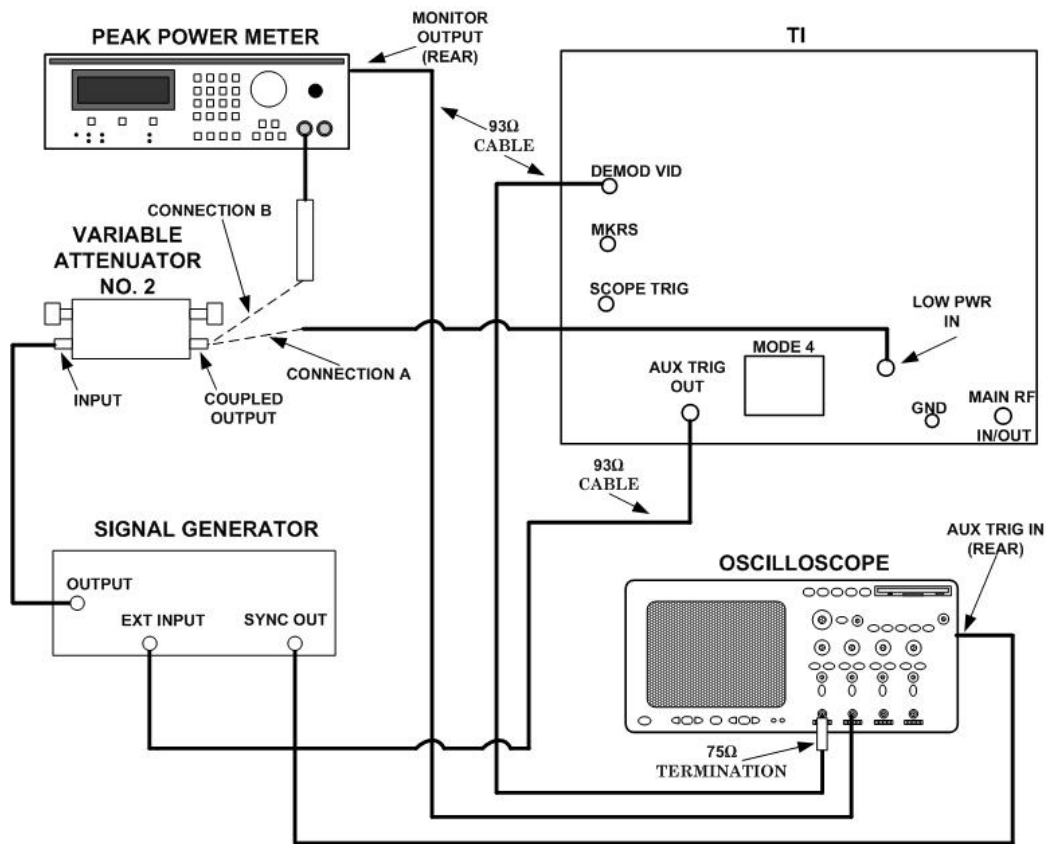
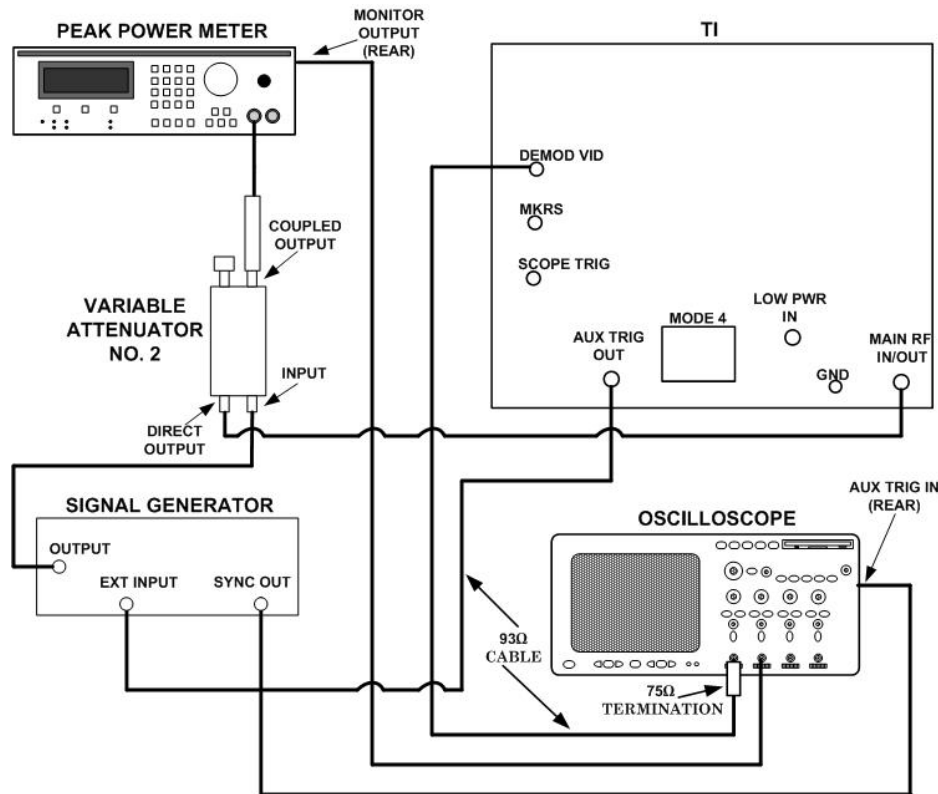

Figure 8. RF input low power - equipment setup.
Figure 9. RF input high power - equipment setup.
(1) Connect equipment as shown in figure 8, CONNECTION A.
(2) Set **MEASUREMENT FUNCTION SELECT** switch to **PWR** and **PRF SELECT RANGE** switch to **X100**.
(3) Adjust **MEASUREMENT DEMOD VID LEVEL** control for **MEASUREMENT** meter indication of 18 dBW.
(4) Set variable attenuator No. 2 dial to setting on calibration chart for 60 dB at 1090 MHz.
(5) Position signal generator controls for output frequency of 1090 MHz, **PULSE MODULATION WIDTH** control for 1 to 2 μ s, **PULSE MODULATION** switch to **EXT SYNC** and adjust **RF OUT** for a 1 V pulse indication of on oscilloscope **CH1**.
(6) Connect equipment as shown in figure 8, CONNECTION B.
(7) Set variable attenuator No. 2 dial to setting on calibration chart for 30 dB at 1090 MHz.
(8) Adjust peak power meter to set reference to top of pulse as viewed on **CH2** of oscilloscope. If peak power meter does not indicate between -3 and -1 dBm, perform **b** (1) through (10) below.
(9) Set variable attenuator No. 2 dial to setting on calibration chart for 45 dB at 1090 MHz.
(10) Adjust **MEASUREMENT DEMOD VID LEVEL** control for **MEASUREMENT METER** indication of **33 dBW**.
(11) Connect equipment as shown in figure 8, CONNECTION A.
(12) Set signal generator output an indication of 1 V pulse on **CH1** oscilloscope.
(13) Connect equipment as show figure 8, CONNECTION B.
(14) Set variable attenuator dial setting on calibration chart for 30 dB at 1090 Hz.
(15) Adjust peak power meter set reference to top of pulse as viewed on **CH2** of oscilloscope. If peak power meter does not indicate between -3 and -1 perform **b** (1) through (10) below.
(16) Connect equipment as show figure 9.
(17) Adjust **MEASUREMENT DEMOD VID LEVEL** control for **MEASUREMENT METER** indication of 18 **dBW**.
(18) Set variable attenuator No. 2 dial to setting on calibration chart for 28 dB at 1090 MHz.
(19) Repeat (5) above.
(20) Adjust peak power meter (**COARSE** and **FINE**) to set reference to top of pulse as viewed on oscilloscope **CH2**. If peak power meter does not indicate 0 dBm \pm 1 dBm, perform **b** (11) through (14) below.
(1) Set variable attenuator No. 2 dial to setting on calibration chart for 30 dB at 1090 MHz.
(2) Adjust signal generator output for a -2 dBm reference on peak power meter as indicated on oscilloscope **CH2**.
(3) Adjust variable attenuator No. 2 dial to setting on calibration chart for 60 dB at 1090 MHz.
(4) Connect equipment as shown in figure 8, CONNECTION A.
(5) Adjust **MEASUREMENT DEMOD VID LEVEL** control for a 1-V pulse indication on **CH1** of oscilloscope (A5).